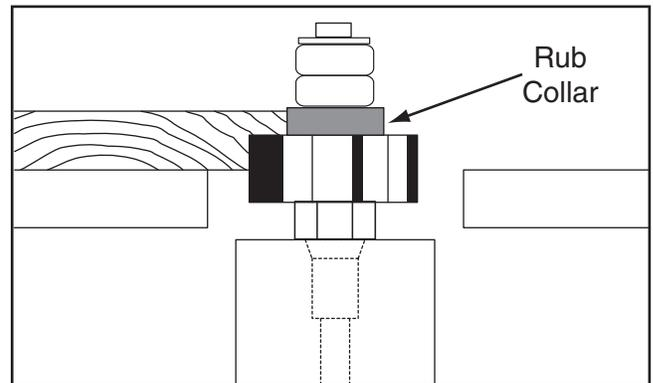

Figure 37. Cutting with rub collar above cutter.
2. **Above the cutter:** When rub collar is used above cutter, cut cannot be seen (see **Figure 37**). This offers some advantage—stock is not affected by slight variations in thickness and accidental lifting will not damage workpiece. Simply correct any change in height by repeating operation.